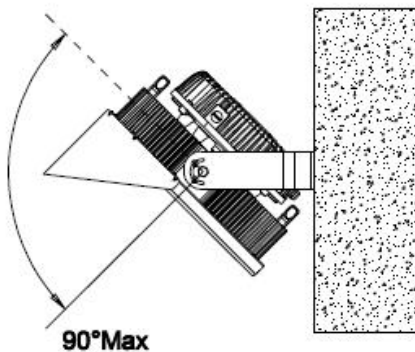
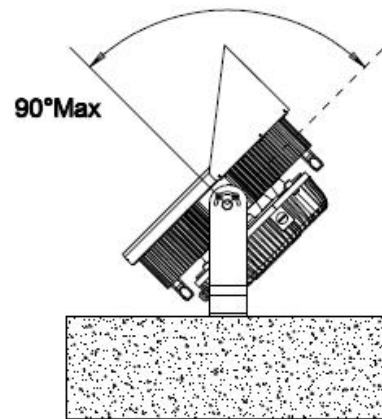

FIG.34
FIG.35
- 2) Align U shaped bracket to the holes on the wall or ground, use expansion screws to fix the bracket. Install fixture on the U bracket, adjust the angle, tighten screws with screwdriver and wrench (See FIG.34 and FIG.35).